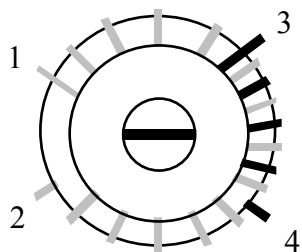

Figure 6-17
□ Install T5 as shown by its component outline in the synthesizer area of the board. Figure 6-17 shows how the 1-2 and 3-4 windings are oriented with the numbered pads. (Also shown are the nylon washer and screw, which will be installed in the next step.) Pull T5's leads taut on the bottom of the board, but do not solder yet.
□ Secure T5 to the board as shown in Figure 6-17 using a 3/8" (9.5 mm) diameter nylon washer, 1/2" (12.7 mm) long nylon 4-40 screw, and a #4 nylon nut. Tighten the nylon nut just enough to hold the assembly in place. Do not over-tighten as this will strip the threads. Solder T5, checking for good solder joints as before.